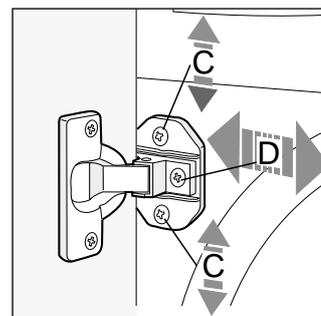

Fig. 15
- To adjust the position of the wooden panel in both the vertical and horizontal directions, use the **C** and **D** screws, as shown in fig. 15.